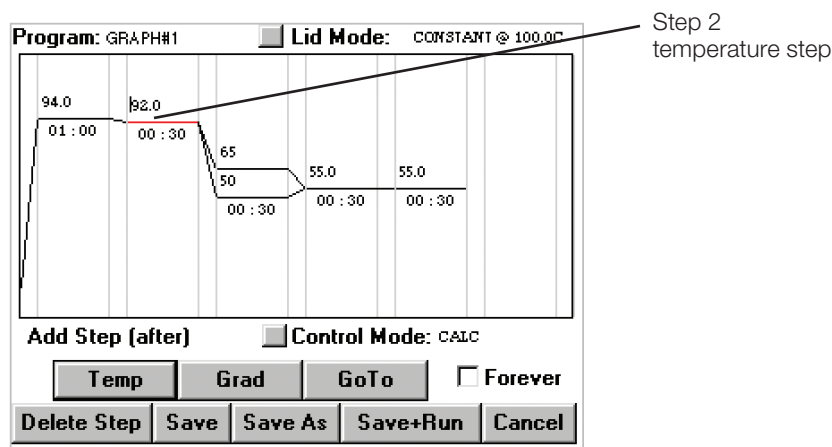

Figure 17. Entering a temperature step in Graphical Mode.
Step 2 of our protocol should now specify a temperature incubation of 92.0 for a duration of 00:30 (Figure 17).